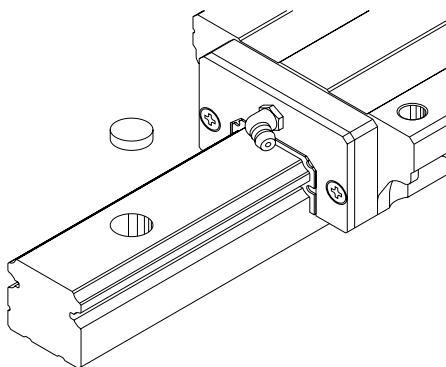

Fig. 3
- After the rail is mounted to the machine base, a cap is used to cover the bolt hole to prevent foreign matter from clogging up the hole or from entering the ball slide (Fig. 3).